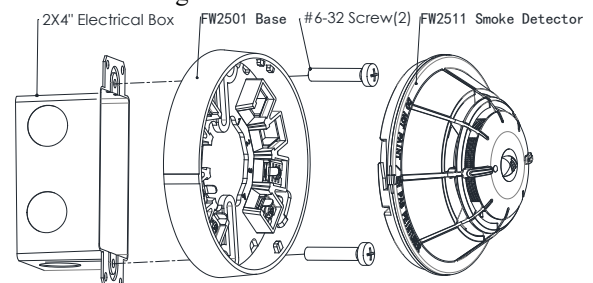
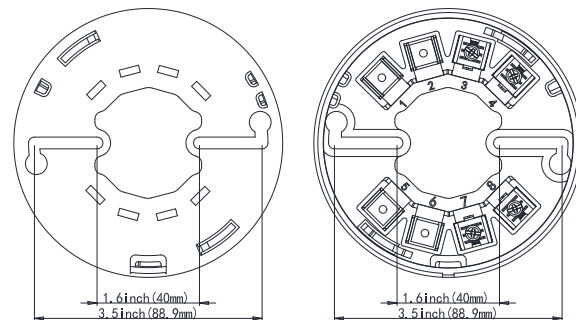

Figure 1. FW2501 Base Installation
Figure 2. Wiring Terminals and Pitch of Hole
1. Mount the FW2501 base onto a 2x4'' electrical box, see Figure 1. The installation hole pitch is illustrated in Figure 2.